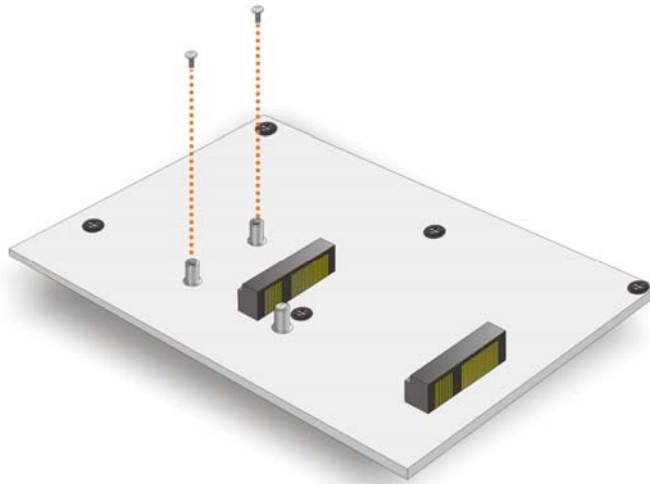

Figure 3-11: Remove the Retention Screws for the Half-size PCIe Mini Card
Step 3: Remove the two retention screws secured on the motherboard as shown in **Figure 3-11**.